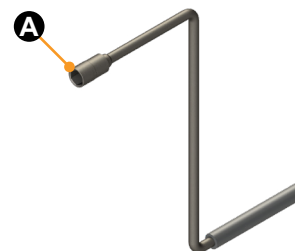

Fig.11
F. Turn the manual crank handle (**Fig.11**) clockwise until trailer is supported and the coupler clears the hitch ball.
I. Remove the manual crank handle (**Fig.11**).
F. Remove the manual crank handle (**Fig.11**).